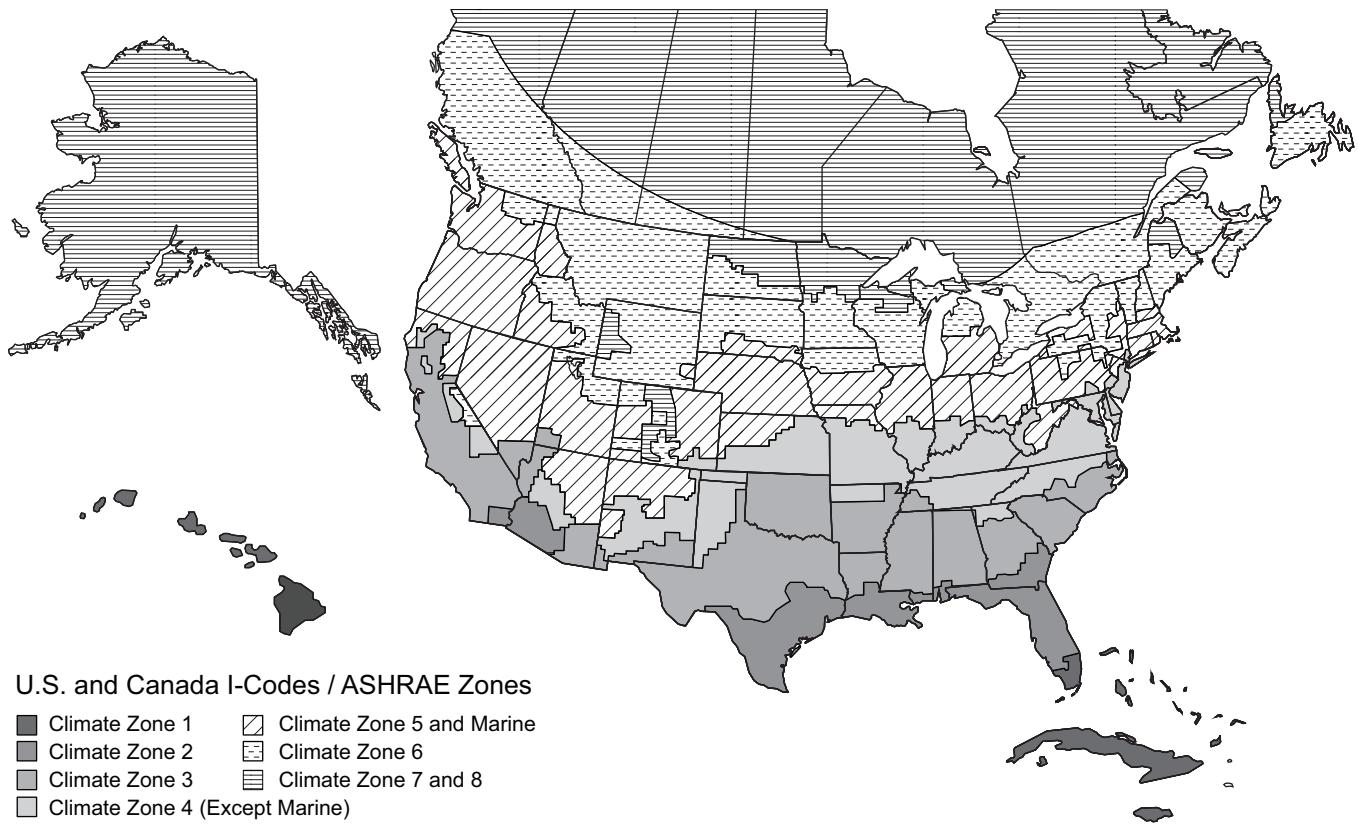

Fig. 61 — U.S. and Canada Climate Zones
- Refer to Fig. 61 for map of U.S. and Canada climate zones.